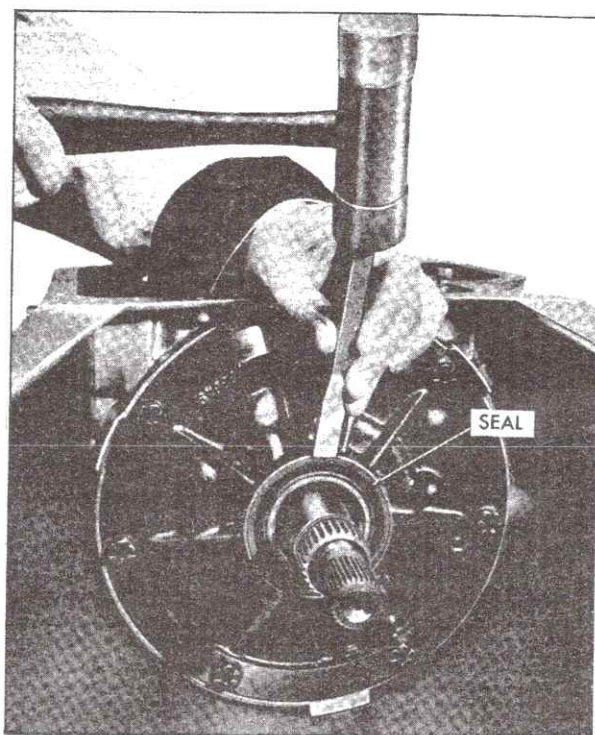

Fig. 7-29 Removing Pump Oil Seal
2. Use hammer to drive screwdriver or chisel under lip of oil seal and pry seal out of pump body, Fig. 7-29.